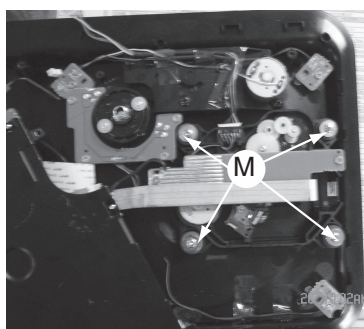

Figure 14
- 2) Loosen 4 screws "M" to remove Loader Assembly as shown in figure 14.